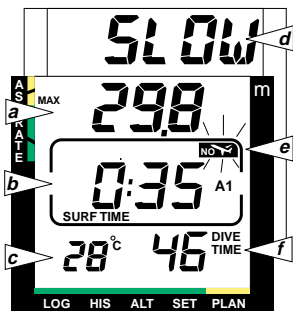

Fig. 3.19 SURFACE MODE AFTER A DIVE, DISPLAY I
Display I (Fig. 3.19)
- The surface time in hours and minutes (separated by a colon), telling the duration of the present surface interval. It is shown above SURF TIME in the center window of the display (Fig. 3.19, b).
- The dive time in minutes, i.e. the total duration of the most recent dive, is displayed next to DIVE TIME in the lower right corner (Fig. 3.19, f).
- The maximum depth of your most recent dive in meters [ft] is shown in the same position as your depth readings during the dive. MAX indicator is then shown in front of the value (Fig. 3.19, a). The SLOW warning will blink over the maximum depth, if you have surfaced with the SLOW warning on (Fig. 3.19, d).
- The temperature in °C [°F] is shown in the lower left corner (Fig. 3.19, c).
- The no-flying warning is indicated by a blinking airplane (Fig. 3.19, e).
The no-flying time is shown in the center window next to the non-blinking airplane image. The blinking airplane is a reminder, when the alternative display showing surface time is on (Figures 3.19 and 3.20). Flying or traveling to a higher altitude should be avoided anytime the airplane symbol is displayed.